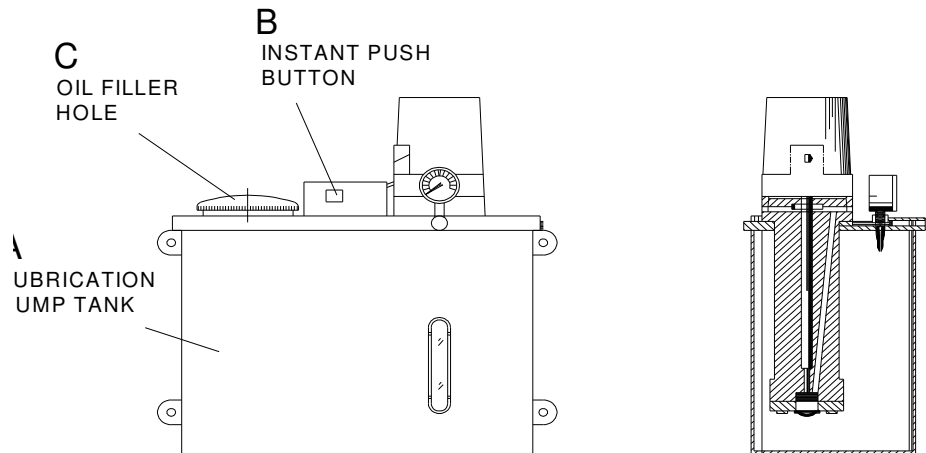

FIG. 6.4.1 REOILING LUBRICATION PUMP TANK
- a. FOR DETAILS ABOUT LUBRICATION PUMP REFER 6.4.1 MAINTENANCE AND ADJUSTMENT OF LUBRICATION PUMP. THE LUBRICATION PUMP TANK (A) AS SHOWN IN FIG. 6.4.1 HAS A CAPACITY OF 4.6 L. WHEN THE POWER SOURCE IS TURNED ON, THE PUMP AUTOMATICALLY STARTS AND DELIVERS OIL TO THE SPEED REDUCTION GEARINGS. THE PUMP IS ADJUSTED BY US AT SHIPPING TO DELIVER OIL AT A RATE OF 6 cc FOR EVERY 15 min.
- c. WHEN THE PUMP IS LEFT OUT OF OPERATION FOR ANY LENGTH OF TIME, OIL LEVEL GO DOWN IN THE PIPING. THEREFOR, HOLD DOWN THE INSTANT PUSH BUTTON (B) OF THE PUMP BEFORE STARTING THE MACHINE OPERATION, UNTIL SUFFICIENT AMOUNT OF OIL IS DISTRIBUTED TO EACH SIDE WAY.
- d. REPLENISH OIL IN THE TANK TO THE SPECIFIED LEVEL THROUGH THE OIL FILLER HOLE (C) AT THE TOP OF THE TANK WITH A SUITABLE FREQUENCY (USUALLY ONCE TWO WEEKS) THAT DEPENDS ON THE SERVICE CONDITION.
- c. TO ADJUST THE AIR PRESSURE (SEE FIG. 6.4.1) PULL THE STUD (B) ADJUST IT TO 6 bar . IF THE AIR PRESSURES STILL NOT ENOUGH, CHECK THE AIR SOURCE.
- f. FOR DETAIL OF THE AIR LINE, REFER TO THE AIR CIRCUIT DIAGRAM FIG 6.4.1. .